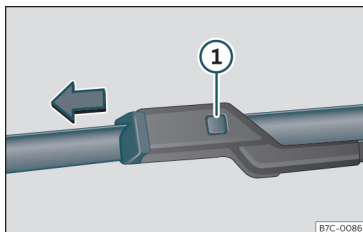

Fig. 38 Changing the windscreen wiper blades
- Press and hold release button >>> Fig. 38 ❶ and pull gently on the wiper blade in the direction of the arrow.